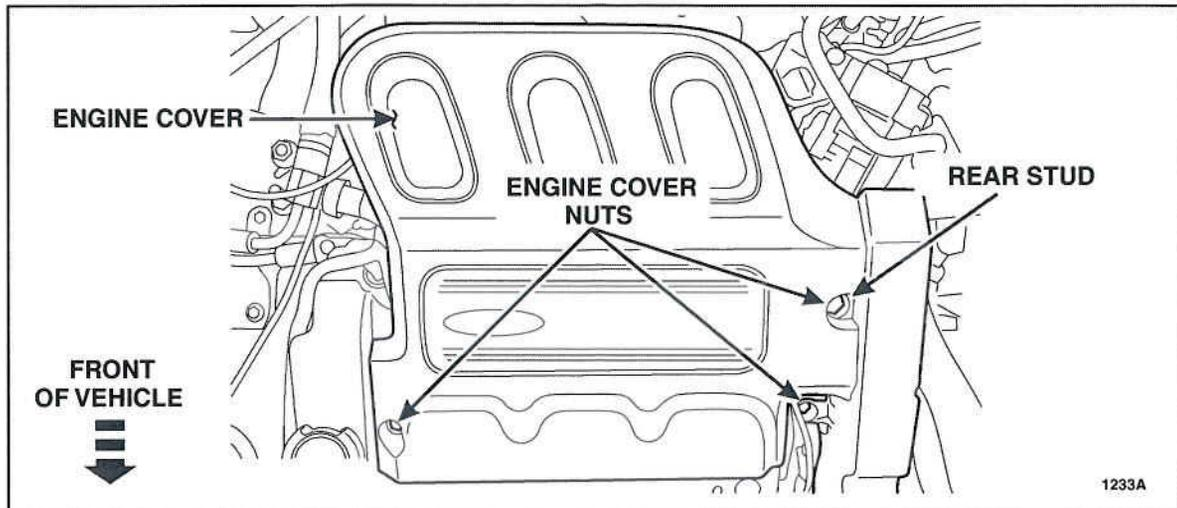

FIGURE 1
1. Remove the three nuts and the engine cover. See Figure 1.